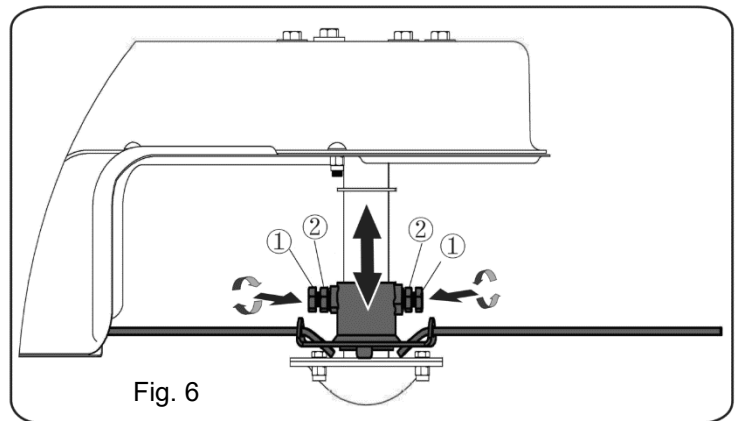

Fig. 6
Loosen the lock nut (2) and bolt (1) located on the side of the spindle shaft. See Fig. 6. Move the spindle up or down to the desired position, then tighten the bolt (1) and lock nut (2).
**CAUTION:** Before starting the engine, make sure that the spindle bolt (1) and lock nut (2) are securely tightened.